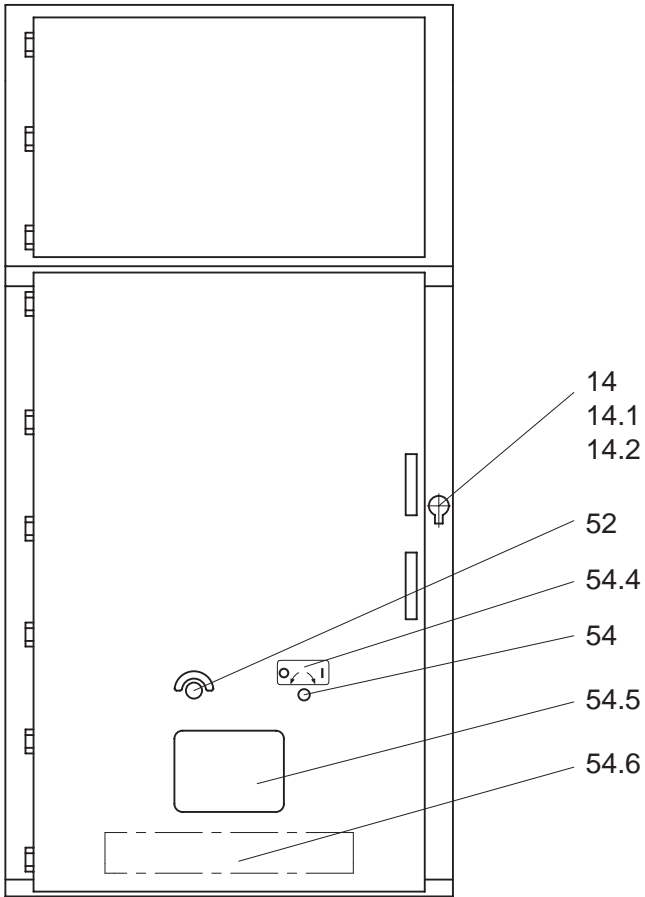

Figure 3/1: UniGear ZS3.2, front view.
- The hinged shutters can be secured with padlocks in the closed position when the withdrawable part has been removed (figure 3/9).